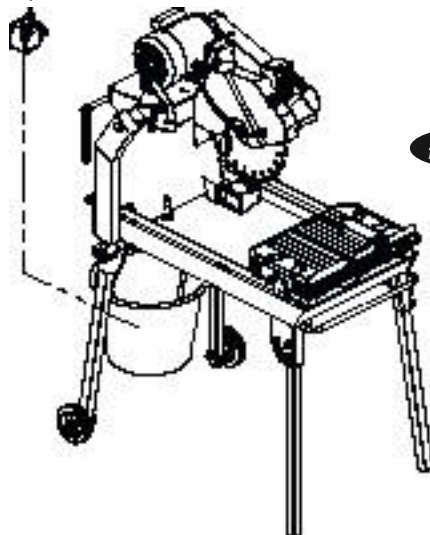

figure 4
2. Place the water pump inside the water bucket (figure 4).